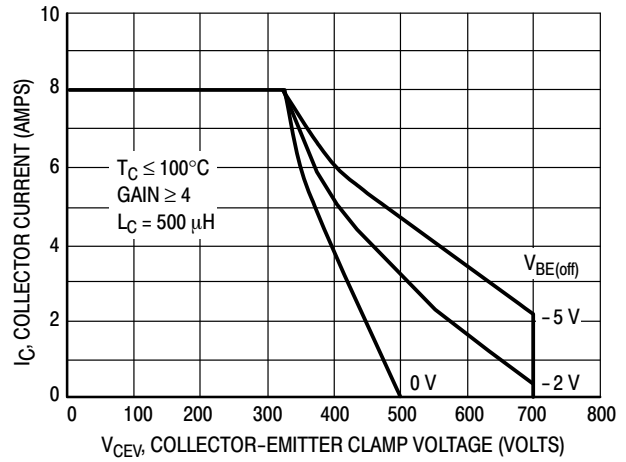

Figure 7. Maximum Reverse Bias Switching Safe Operating Area
Use of reverse biased safe operating area data (Figure 7) is discussed in the applications information section.
For inductive loads, high voltage and current must be sustained simultaneously during turn-off, in most cases, with the base to emitter junction reverse biased. Under these conditions the collector voltage must be held to a safe level at or below a specific value of collector current. This can be accomplished by several means such as active clamping, RC snubbing, load line shaping, etc. The safe level for these devices is specified as a Reverse Bias Safe Operating Area (Figure 7) which represents voltage-current conditions that can be sustained during reverse biased turn-off. This rating is verified under clamped conditions so that the device is never subjected to an avalanche mode.
3. The base drive conditions are within the specified limits shown on the Reverse Bias SOA curve (Figure 7).